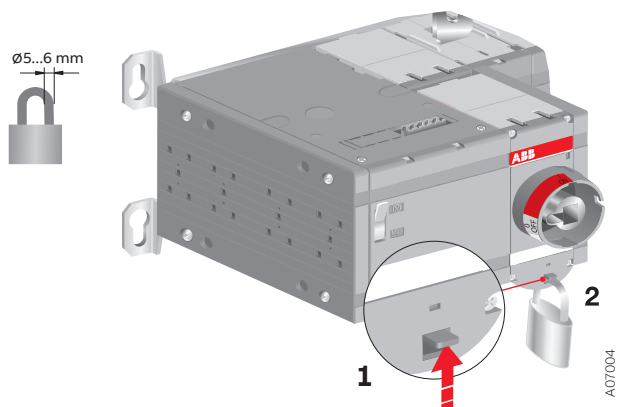

Figure 15.7 Locking the electrical operation
2. Place the padlock under the latch, see Figure 15.7.